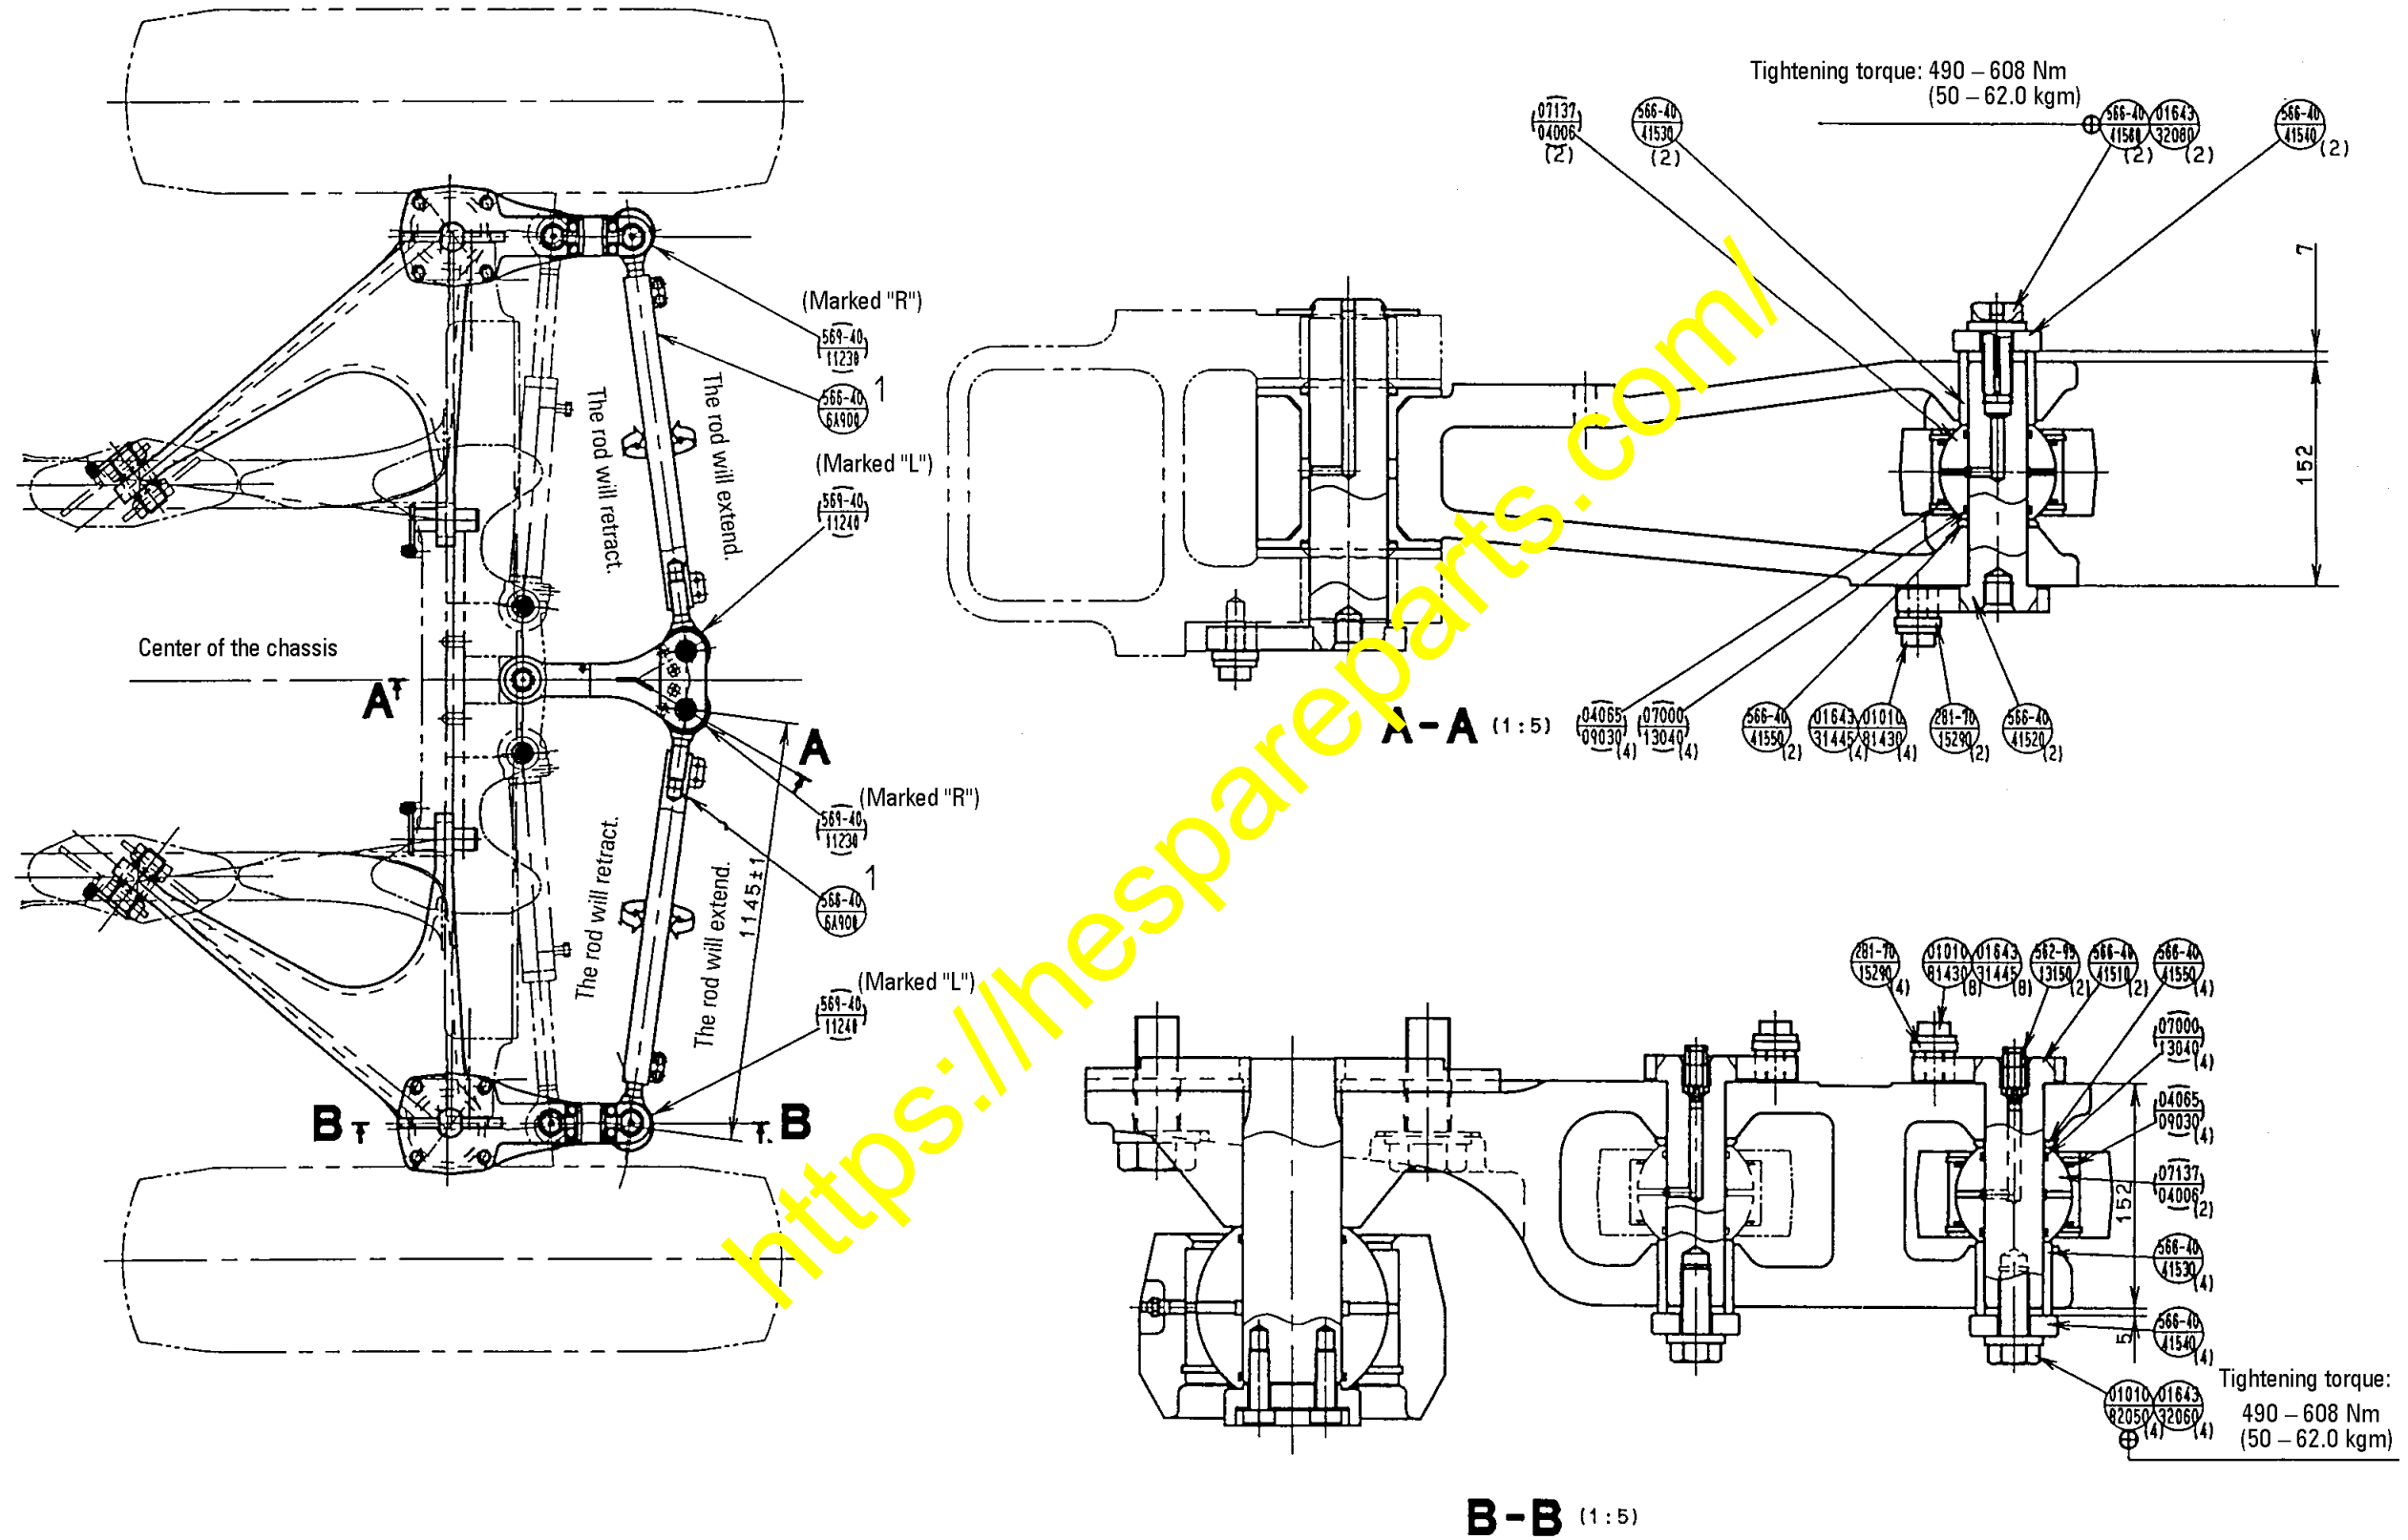

Fig. 3 Installing the tie rod assembly
- 1) Install the tie rod assembly (566-40-6A900) to the chassis referring to Fig. 3.
- 2) The positioning (direction) of the tie rod assembly should be according to Fig. 3.
- 4) The rod length adjusting directions are according to the arrowed directions indicated in Fig. 3.